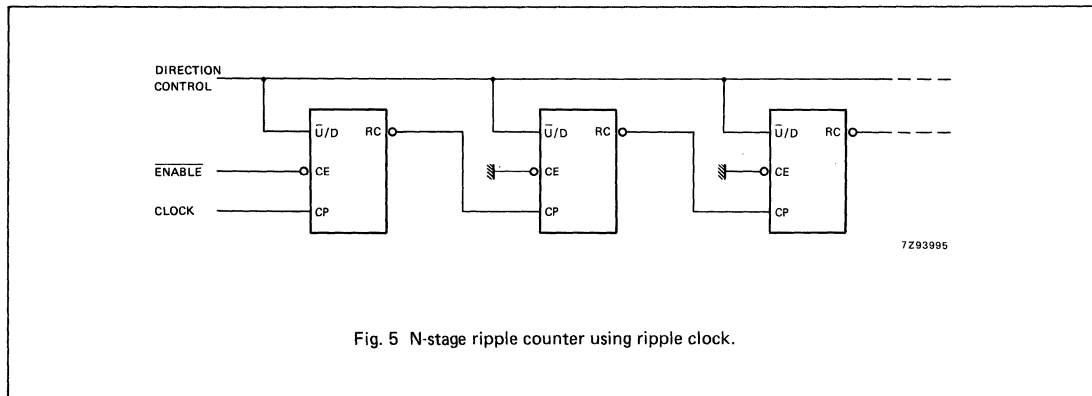
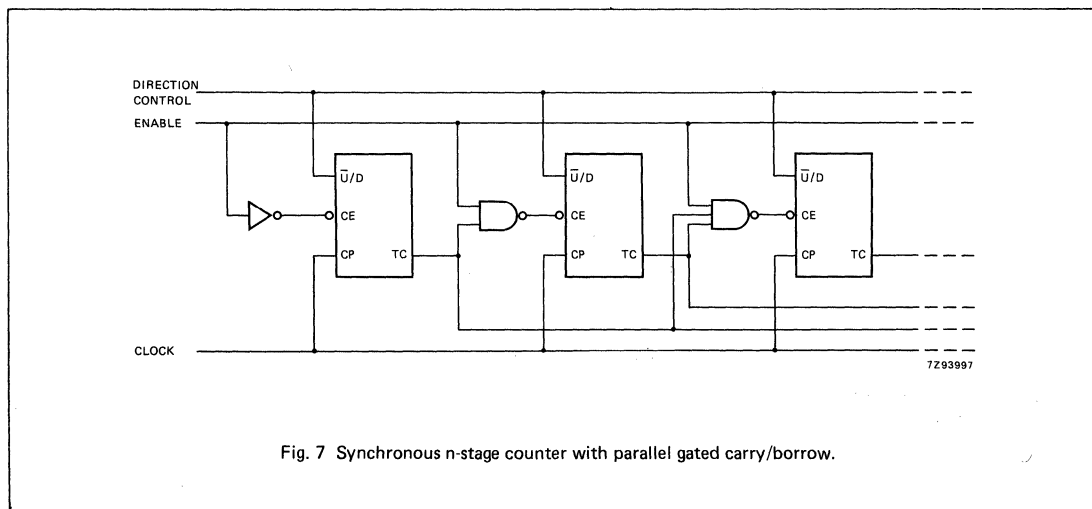

Fig. 5 N-stage ripple counter using ripple clock.
Fig. 7 Synchronous n-stage counter with parallel gated carry/borrow.
Overflow/underflow indications are provided by two types of outputs, the terminal count (TC) and ripple clock (\overline{RC}). The TC output is normally LOW and goes HIGH when a circuit reaches zero in the count-down mode or reaches "9" in the count-up-mode. The TC output will remain HIGH until a state change occurs, either by counting or presetting, or until $\overline{U/D}$ is changed. Do not use the TC output as a clock signal because it is subject to decoding spikes. The TC signal is used internally to enable the \overline{RC} output. When TC is HIGH and \overline{CE} is LOW, the \overline{RC} output follows the clock pulse (CP). This feature simplifies the design of multistage counters as shown in Figs 5 and 6.
In Fig. 5, each \overline{RC} output is used as the clock input to the next higher stage. It is only necessary to inhibit the first stage to prevent counting in all stages, since a HIGH on \overline{CE} inhibits the \overline{RC} output pulse as indicated in the function table. The timing skew between state changes in the first and last stages is represented by the cumulative delay of the clock as it ripples through the preceding stages. This can be a disadvantage of this configuration in some applications.
In Fig. 7, the configuration shown avoids ripple delays and their associated restrictions. Combining the TC signals from all the preceding stages forms the \overline{CE} input for a given stage. An enable must be included in each carry gate in order to inhibit counting. The TC output of a given stage is not affected by its own \overline{CE} signal therefore the simple inhibit scheme of Figs 5 and 6 does not apply.